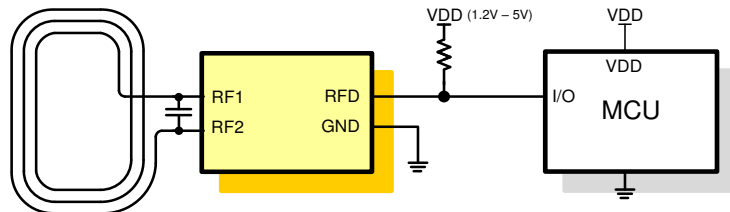

Figure 2 SIC43NT with RF detect pin operating in an open-drain mode
- RF field detection when I/O is set in an open drain mode (Figure 2)